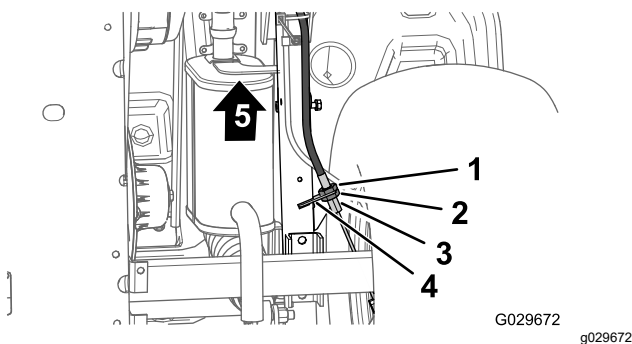

Figure 64
3. At the bottom of the machine, loosen the rear jam nut for the threaded adjuster of the parking-brake cable 4 turns (Figure 64).
4. Tighten the forward jam nut (Figure 64).
- A. Loosen the forward jam nut (Figure 64) for the threaded adjuster of the parking-brake cable 1 turn.
- B. Tighten the rear jam nut (Figure 64).
- A. Loosen the rear jam nut (Figure 64) for the threaded adjuster of the parking-brake cable 1 turn.
- B. Tighten the forward jam nut (Figure 64).